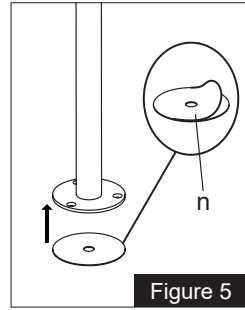

Figure 5
1. If the existing grommet hole comes with a plastic protector, first remove it to ensure a flat mounting surface. Attach Soft Pad (**n**) to Pole (**a**). See Figure 5.